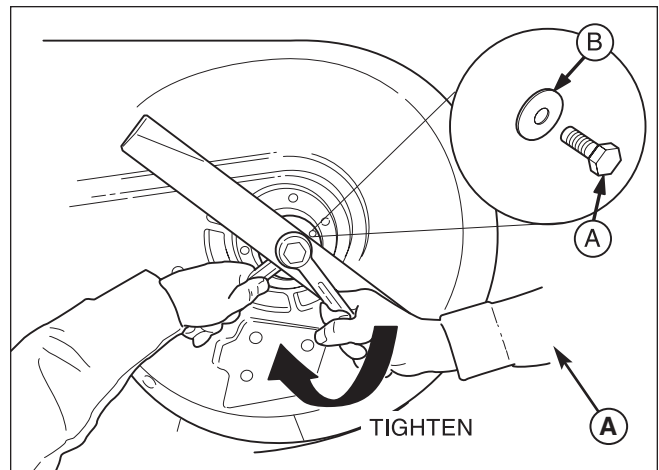

Figure 30. Installing The Blade
5. Reinstall each blade with the tabs pointing up toward deck as shown in Figure 30. Secure with a bolt and flat washer and torque bolts to 70 ft.lbs. (94 N.m.).